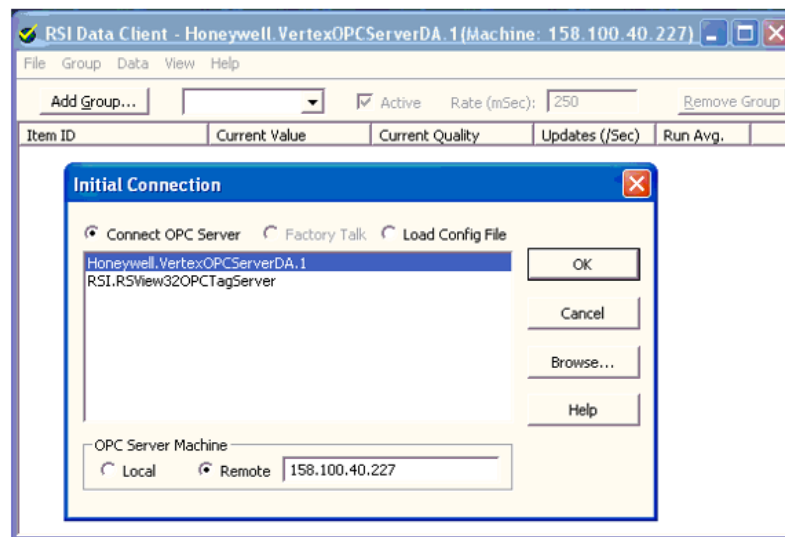

Figure 8-25. Enter OPC Server and Machine Name
3. Select tags by double-clicking on the bottom- right box of the **Add Item** form as shown in Figure 8-25.